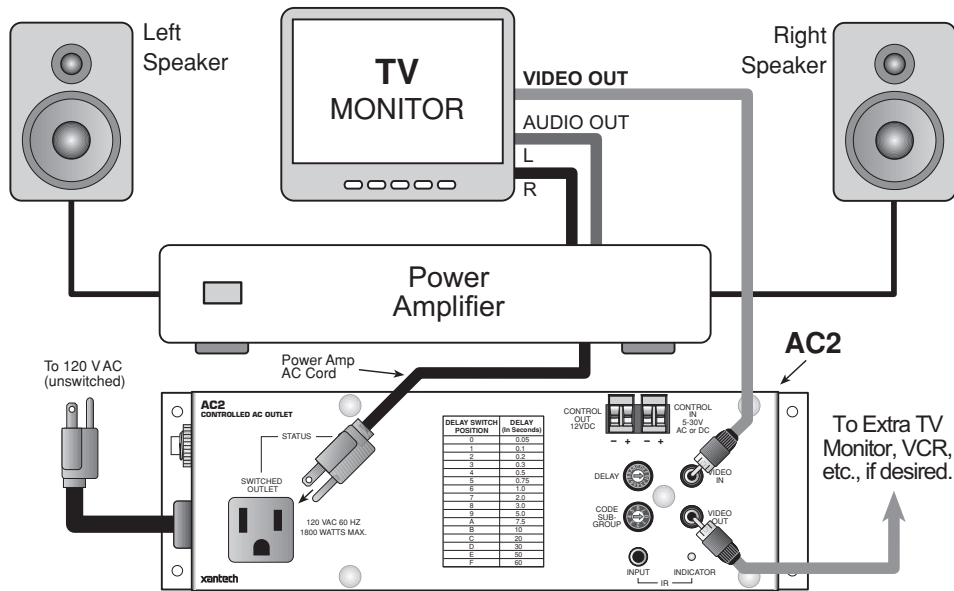

Fig. 6 Using the VIDEO IN jack
**Fig. 6** is an example of the use of the VIDEO Input jack on the AC2.